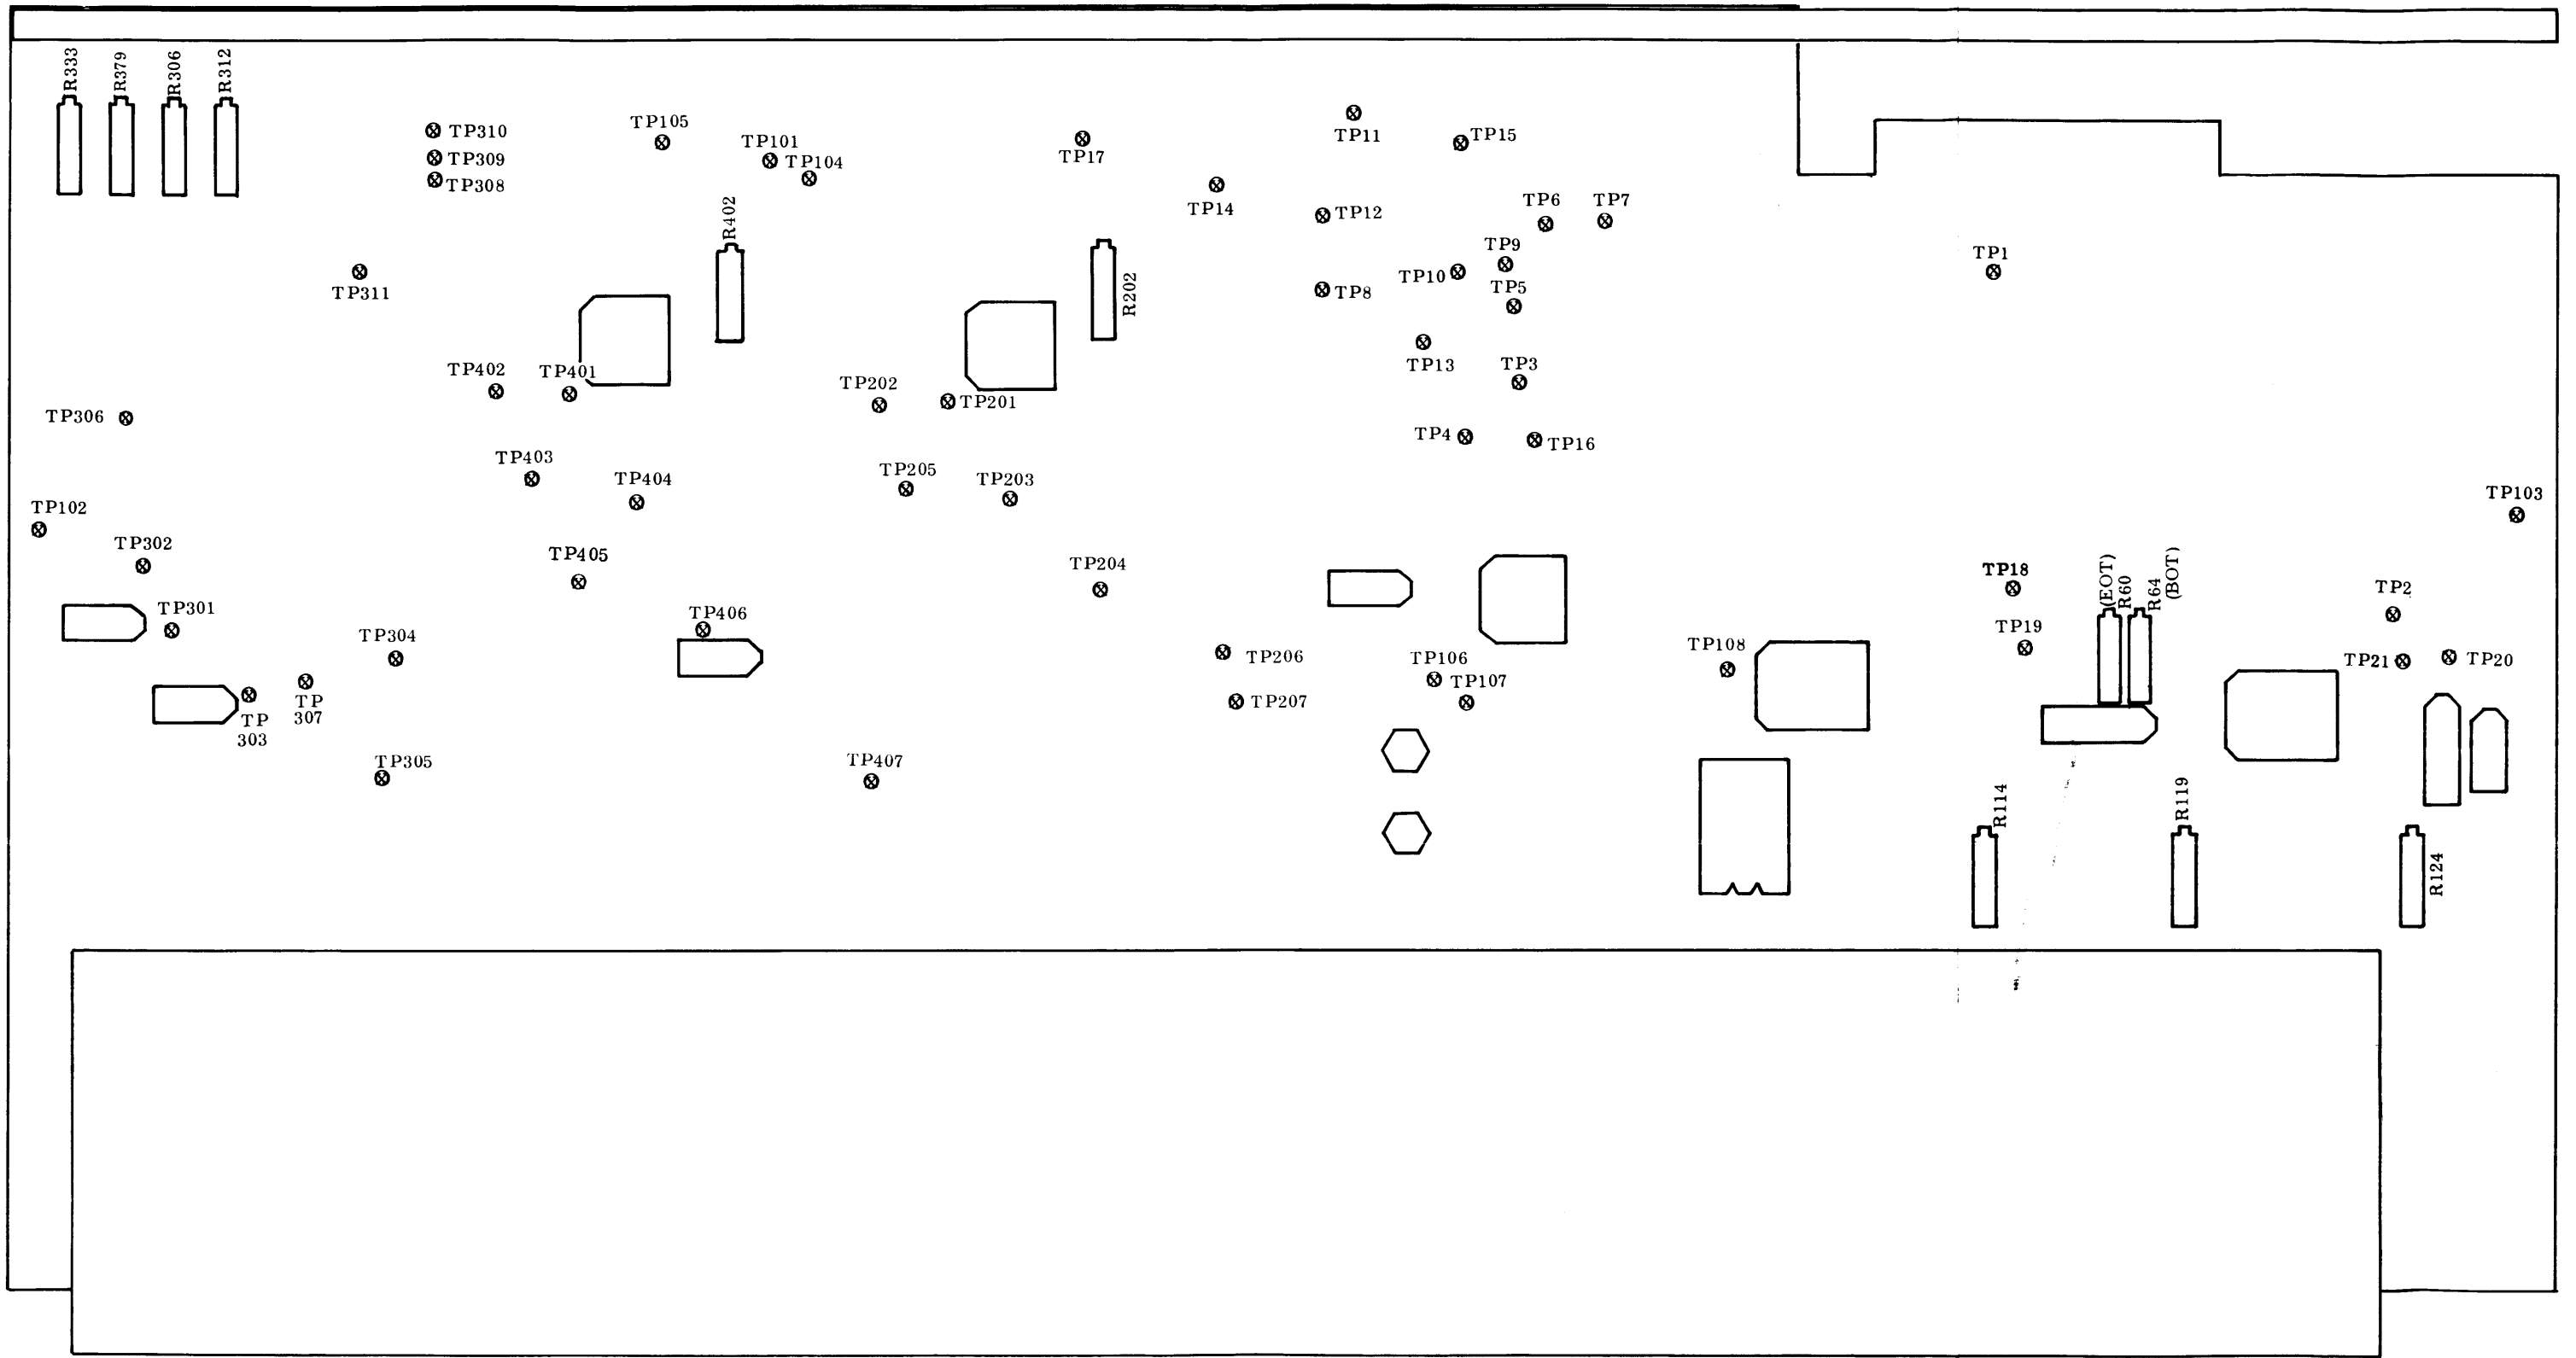

Figure 5-4. Control/Servo Board Test Point Chart
The potentiometers used for these adjustments are located on the power regulator portion of the control/servo board. Test point locations are shown in Figure 5-4. Referring to Table 5-3, for each of the three power supplies listed measure voltage across the test points shown and adjust the designated potentiometer until the required voltage is obtained.
5-23. If either the end-of-tape (EOT) or beginning-of-tape (BOT) system is not functioning properly, or if a new tape sensor assembly has been installed, the complete tape sensor system must be readjusted in accordance with the procedure presented in paragraph 5-24. The potentiometers and test points used for these adjustments are located on the control/servo board. A chart of the test point and potentiometer locations on the control/servo board is presented in Figure 5-4.
- a. Monitor tachometer output voltage at TP301, located on capstan servo portion of control/servo board. (See Figure 5-4 for location of test points.)
- a. Use oscilloscope to monitor TP301 (Figure 5-4), on control/servo board, with respect to TP102.